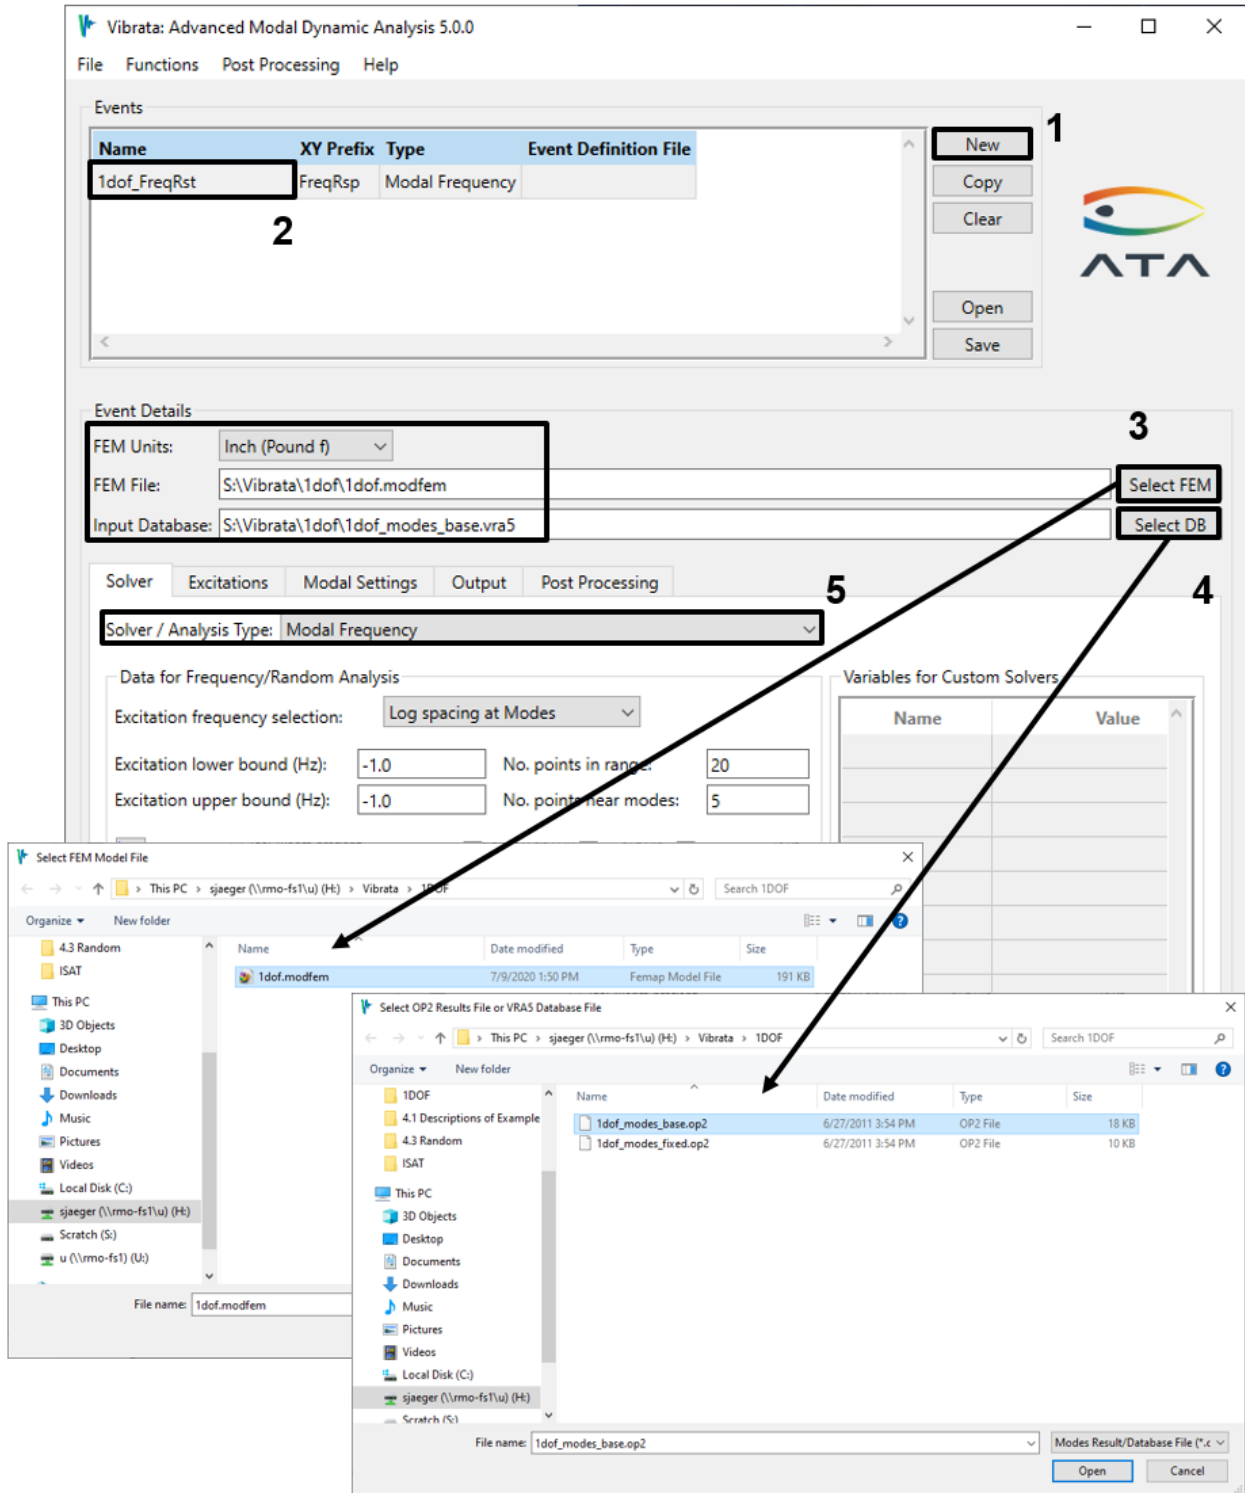

Figure 4-9. Create a new frequency response event and select the FEM on which to base it.
2. Start Vibrata and create a new modal frequency event using that modfem file (Figure 4-9) and select the OP2 named “1dof\_modes\_base.op2” for the results. You can assign an XY Prefix here, or you will be asked for one when you solve.